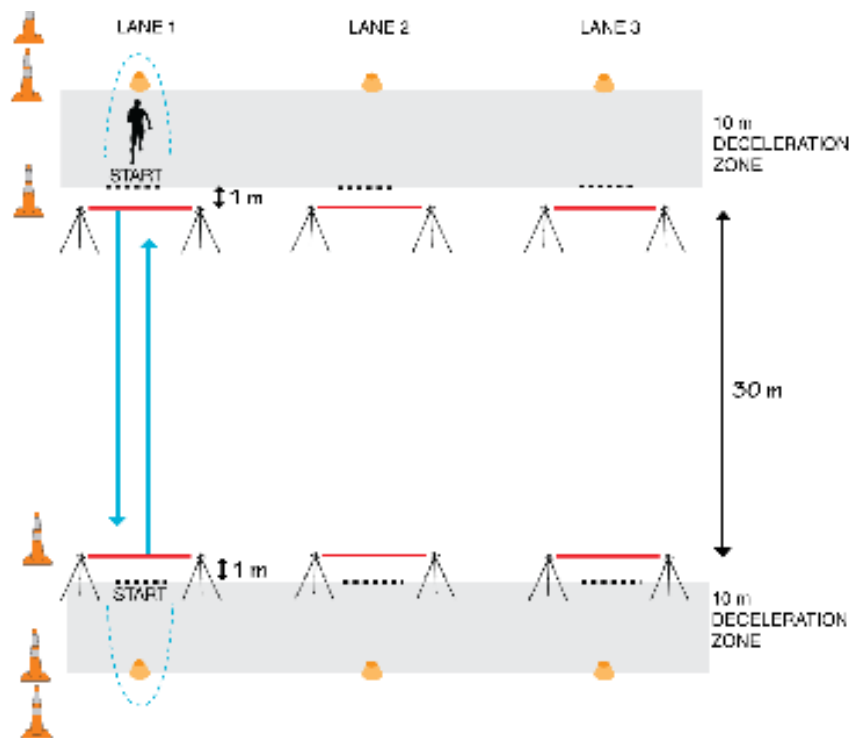

Figure 5. Schematic diagram (not to scale) of the course set-up for the 6 x 30 m repeat sprint test.
- 2) Set-up the timing gates at the 0-30 m marks for the number of lanes being used (typically one or two or three depending on the number of players to be tested, available equipment and staff). Place a cone marker for the turnaround point at both ends exactly 10 m from the 0 and 30 m timing gates (Figure 5). There should be a minimum of at least 5 more metres run-off area beyond the turnaround cones. At each of each running lane position a starting line exactly 1.0 m behind the zero line of the timing gates.